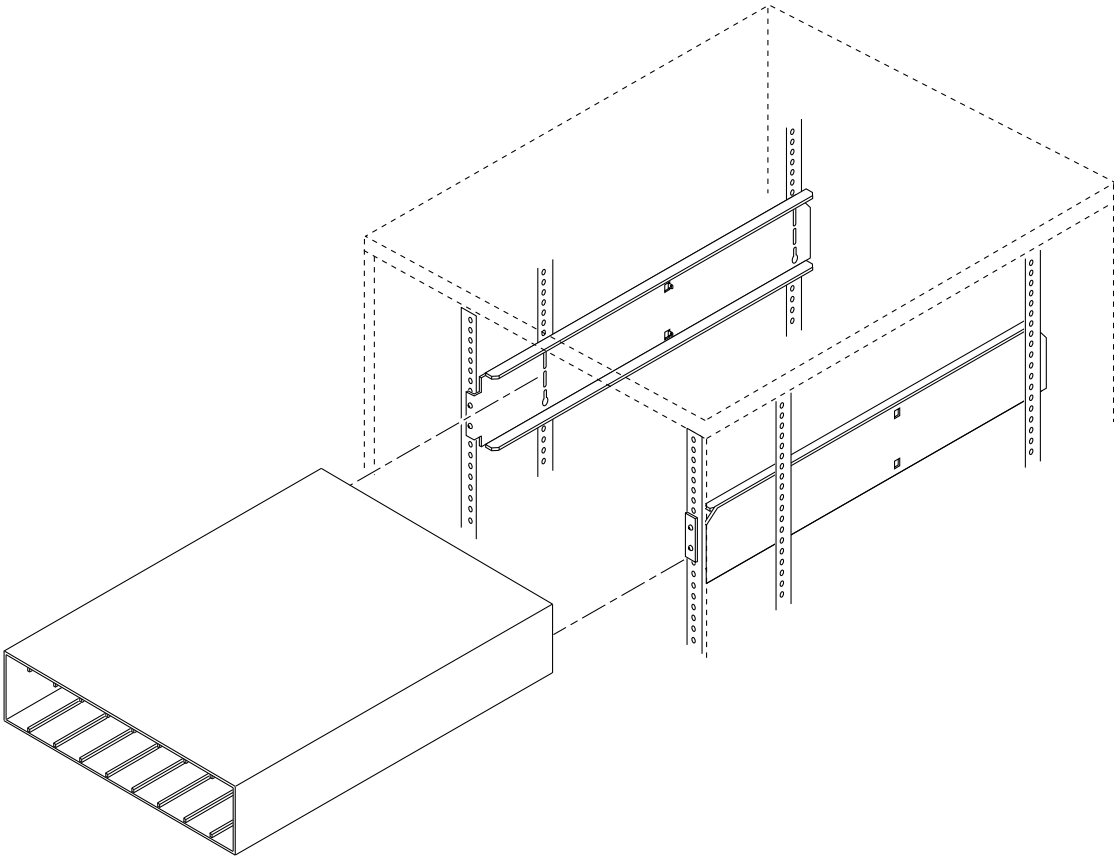

FIGURE 9-3 Removing the Chassis
b. Slide the chassis out of the cabinet (FIGURE 9-3).